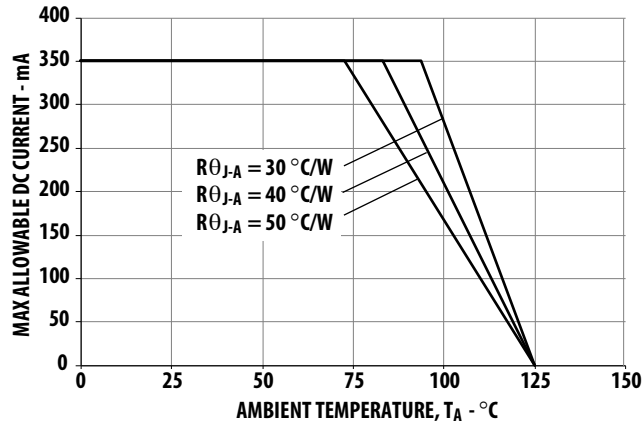

Figure 5. Maximum forward current vs. ambient temperature for AlInGaP
1. DC forward current – derate linearly based on Figure 5 for AlInGaP and Figure 13 for InGaN.